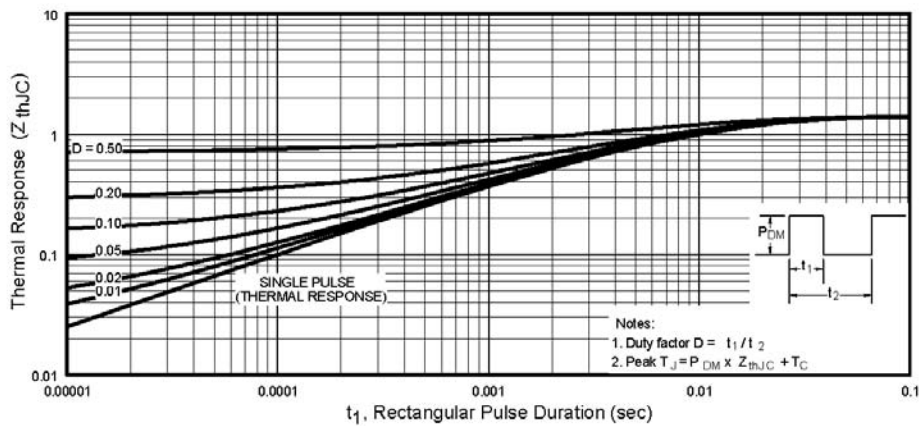

Fig 11. Maximum Effective Transient Thermal Impedance, Junction-to-Case
- ① Repetitive rating; pulse width limited by max. junction temperature. (See fig. 11)
- ② V_{DD} = -25V, Starting T_J = 25°C, L = 2.1mH